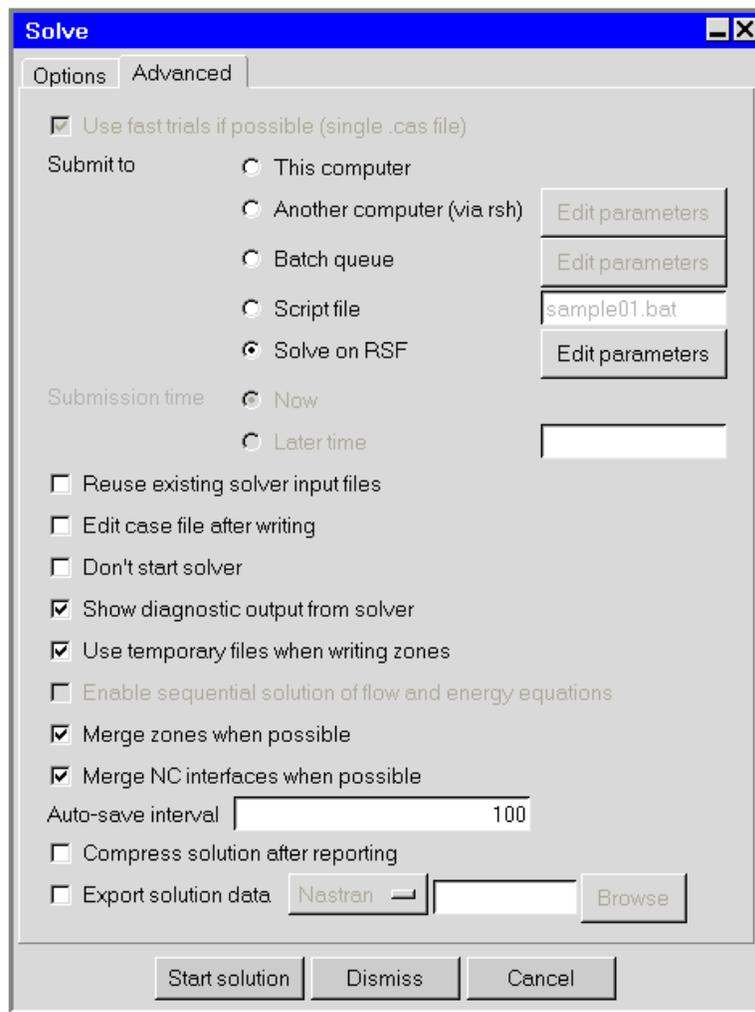

Figure 27.11.10: The Solve Panel for RSF Processing (Advanced Tab)
2. Specify the project that is to be submitted to the RSF (Figure 27.11.10).